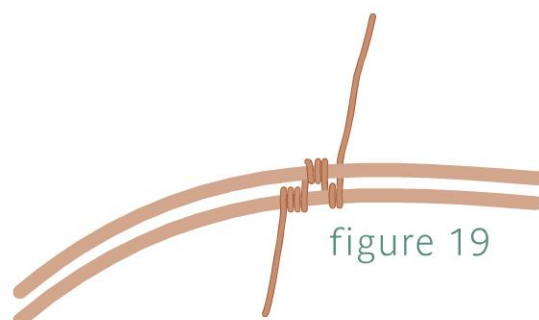

figure 19
- 6 Bring the weaving wire underneath and over Frame Wire 1; coil twice (Figure 19).